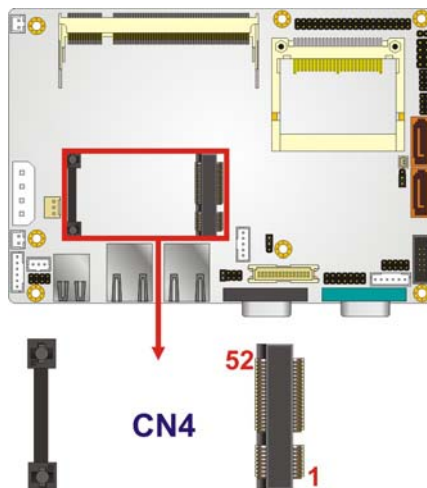

Figure 3-7: PCIe Mini Card Slot Location
- CN Location:** See **Figure 3-7**